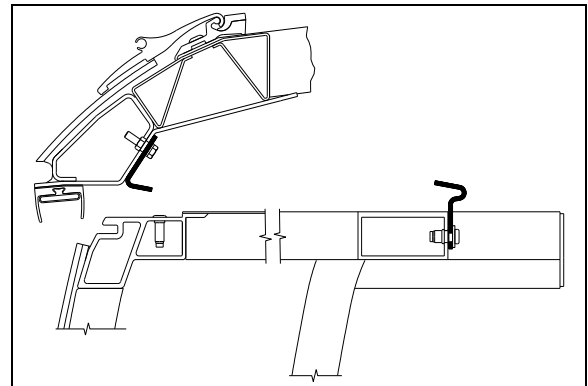

FIGURE 37: ROOM 2" INSIDE – UPPER SECTION VIEW
Do not retract slide-out room too far in. Retract just past the wiper seal. (Figure 37)
4. Using the manual override procedure, move the slide-out 2" inside the vehicle, just so the seal becomes accessible from the outside (Figure 37).
5. Once completed, use the manual override procedure to extend the slide-out to reinstall the exterior extrusion. Apply appropriate sealant on the exterior extrusion screws and between the extrusion, the roof and the edges to prevent water infiltration (Figure 37).